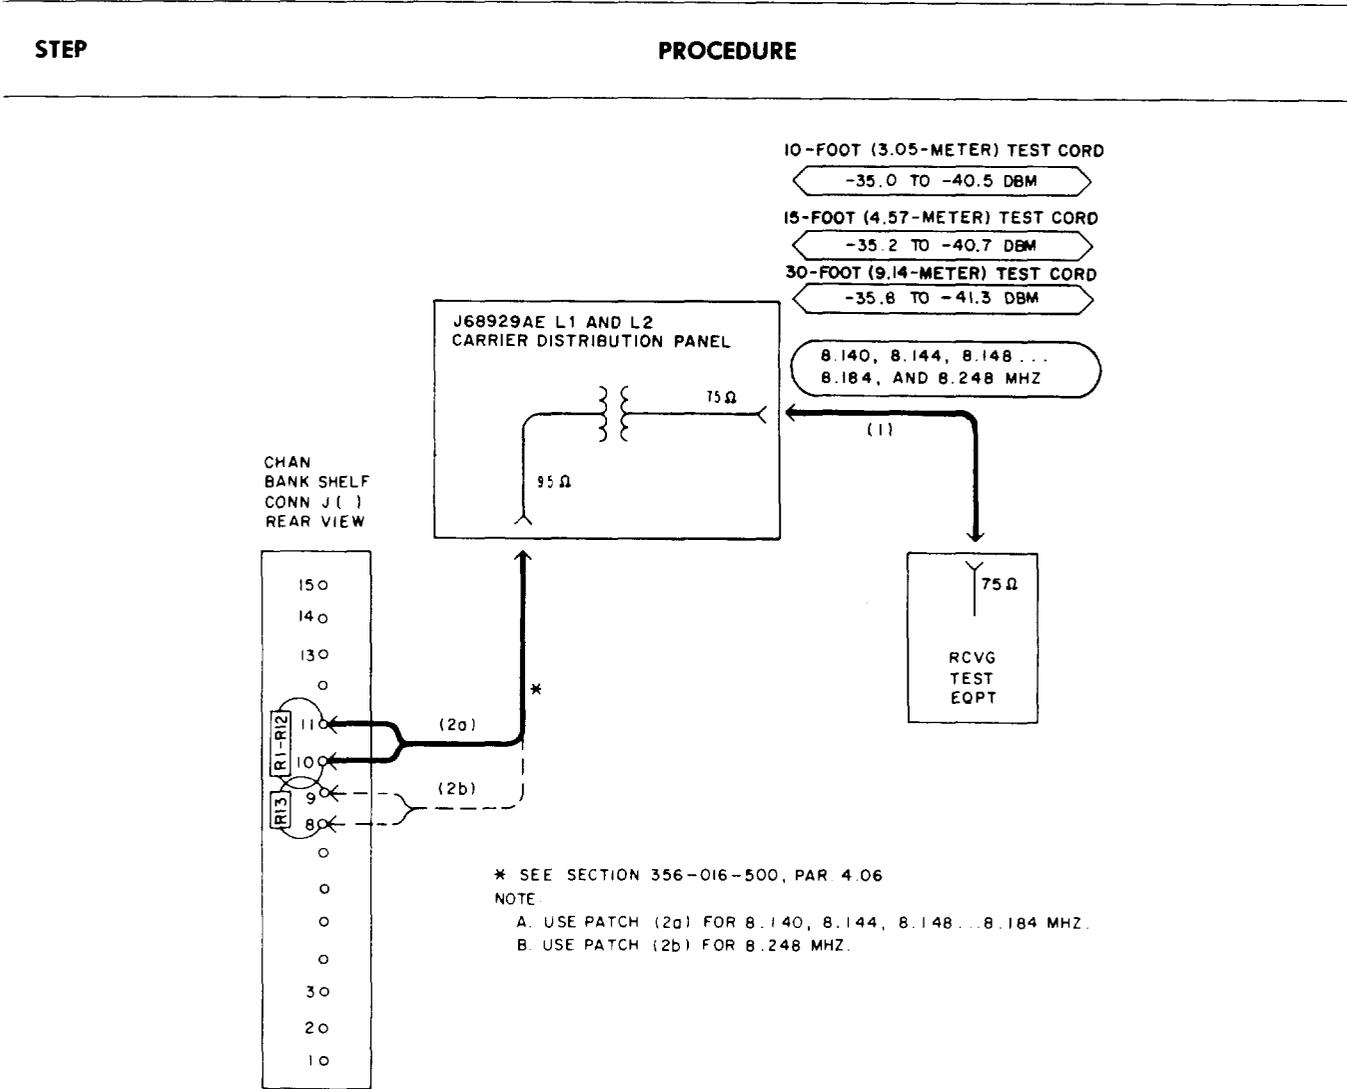

Fig. 13—Patching Diagram—Carrier-Distribution Test—Auxiliary Carrier Supply
71 At the rear of the A6 channel bank shelf selected in Step 68, connect the 95Ω jack to pins 10 and 11 of the Channel 1 plug-in-unit jack (J2) [Table E and patch (2a), Fig. 13]. (See Section 356-016-500, paragraph 4.06, for special cord construction.)
Note: These frequencies are on pins 10 and 11 of channel bank shelf connectors J3, J4, J5, ... and J13 [Table E and patch (2a), Fig. 13].
75	Remove patch (2a), Fig. 13 from pins 10 and 11.
76	Connect the 95 Ω jack to pins 8 and 9 of J14 [Table E and patch (2b), Fig. 13].
78	Remove patches (1) and (2), Fig. 13.